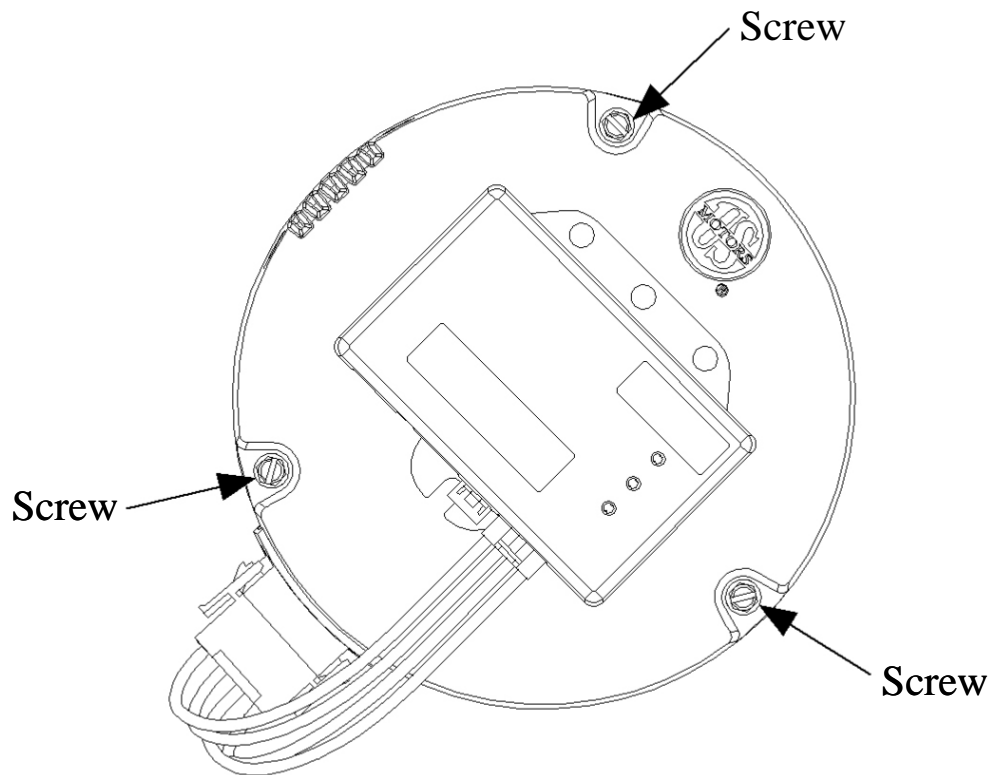
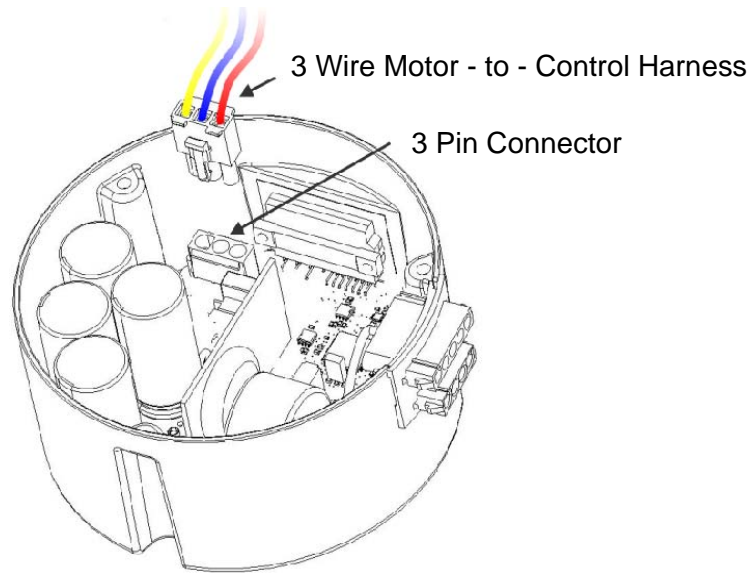

Figure 11
Figure 12
2. Remove 3 screws securing the motor and control unit together. Grasp the Control Unit and pull away from motor until both units are separated. [Figure 11].
4. Disconnect the 3-wire motor to control harness from the control [Figure 12] and remove control unit [Figure 11]. Inspect for bent, damaged, or recessed wires and terminals inside of connector.